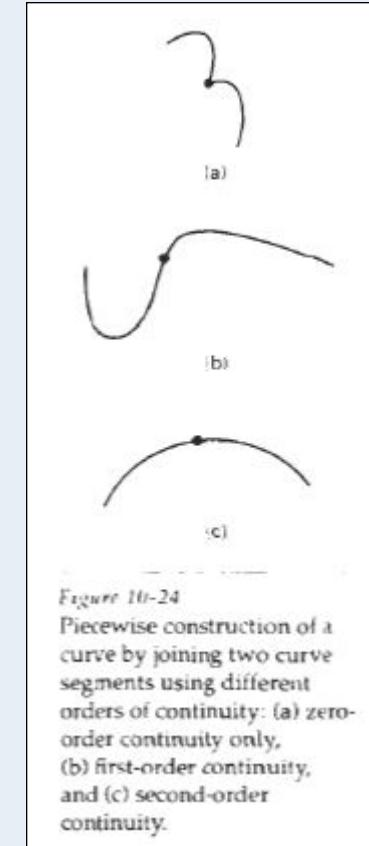

Figure 10-24
- Figure 10-24 shows examples of C^0 , C^1 , and C^2 continuity.